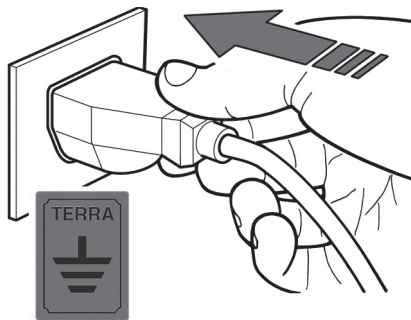

fig. 10
- It is imperative that the complete equipment is properly connected to an efficient earth connection (fig. 10).
- 3) Insert the power plug of the Showcase into the socket provided by the customer (fig. 10), making sure that it has earth contact and that there are no multiple sockets connected .